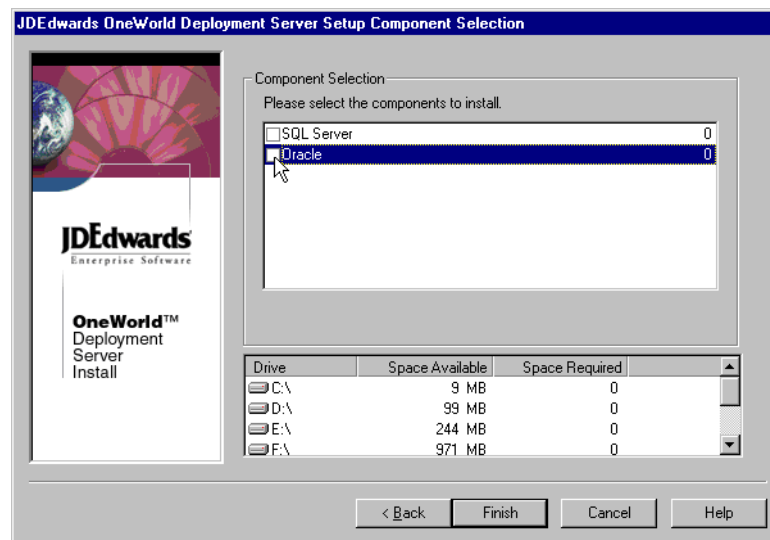

Figure 54. OneWorld Deployment Server Setup Central Objects Component Selection
16. Deselect both **SQL Server** and **Oracle** on the J.D. Edwards OneWorld Deployment Server Setup Component Selection display (Figure 54), because the Central Objects are being installed on the AS/400 system. Click **Finish**.